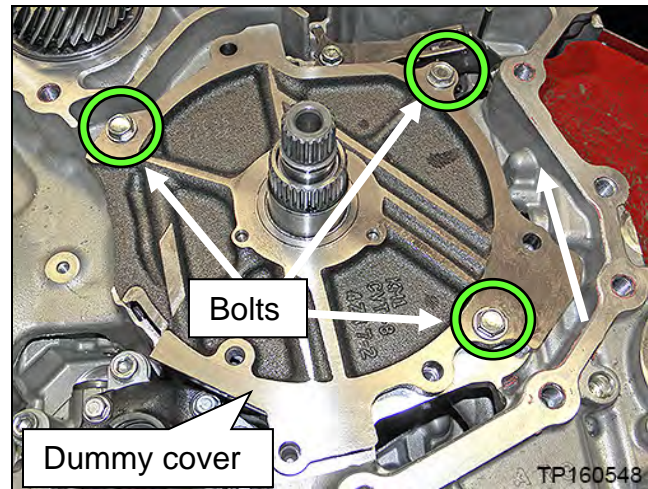

Figure 1E
1. Temporarily install the dummy cover with 3 bolts, finger tight (Figure 1E).